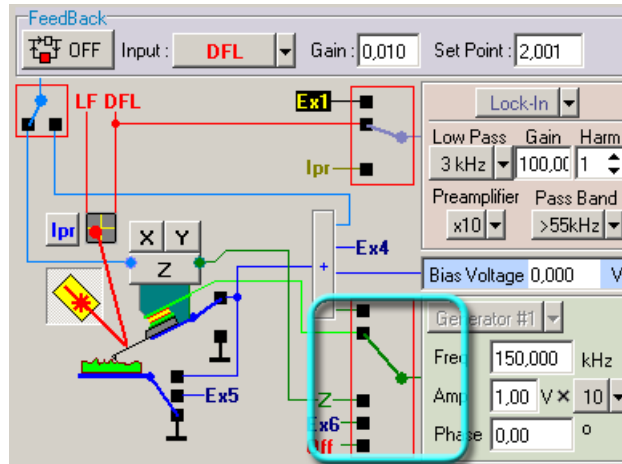

Fig. 1-3
- d. Using the Block Scheme of the instrument, set the key into the position where voltage from the generator is applied to the probe (Fig. 1-3).